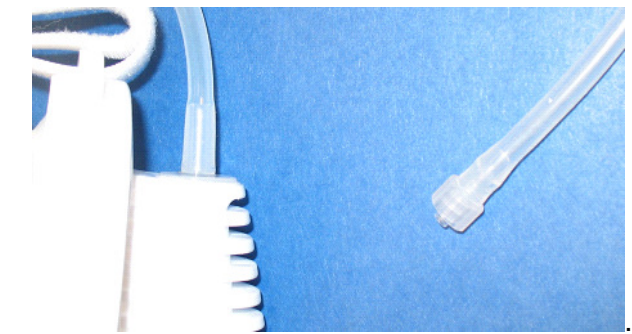

Figure 1
1. To adjust the tubing length, remove the tube from the top of the housing or pull off the luer lock connector and cut the tube with a scissors to the desired length (see Figures 1 and 2).